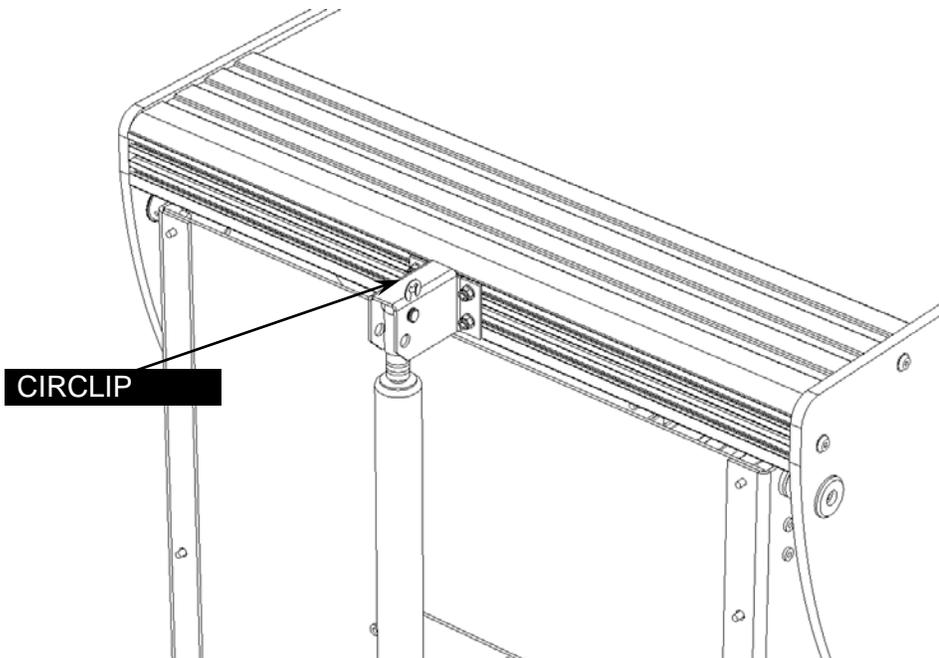
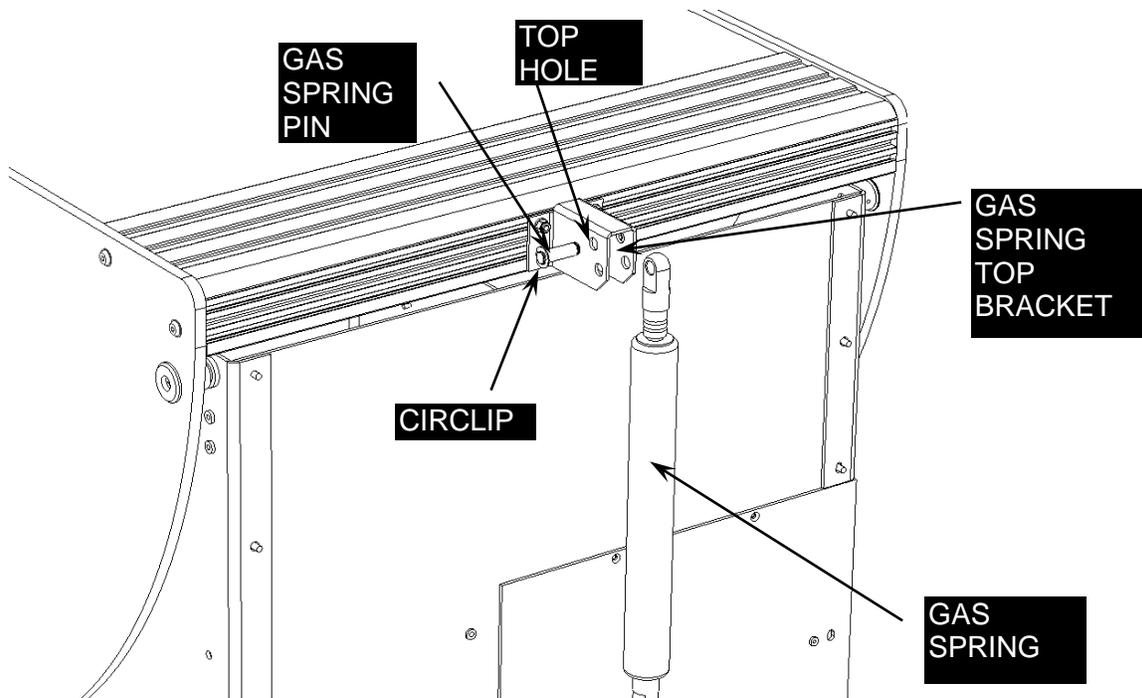

Figure 6-3: Right Circlip
Figure 6-4: Left Circlip and Gas Spring Pin
1. Remove the Circlips that are on the Gas spring pin as shown in Figure 6-3 and Figure 6-4.